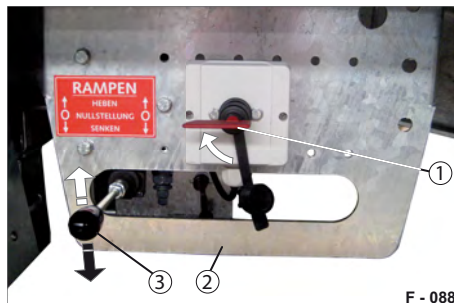

Fig. 38 Operating point
- ▶ Insert the socket key and turn the power switch (Fig. 38/1) to ON.
- ▶ Actuate the operating lever (Fig. 38/3) for drive-up ramps - see section entitled Body starting on page 165.